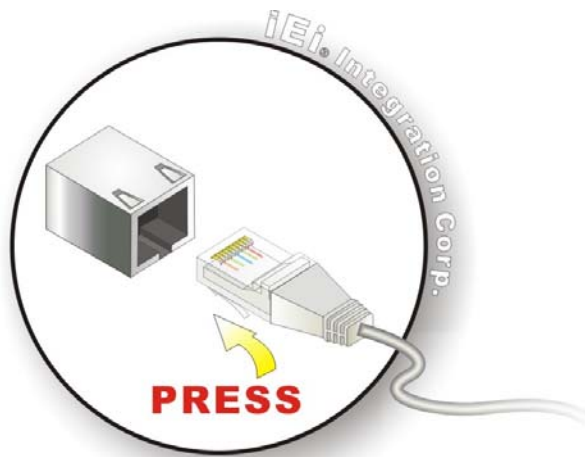

Figure 4-21: LAN Connection
Step 2: **Align the connectors.** Align the RJ-45 connector on the LAN cable with one of the RJ-45 connectors on the NOVA-PV-D5251/D4251. See Figure 4-21.